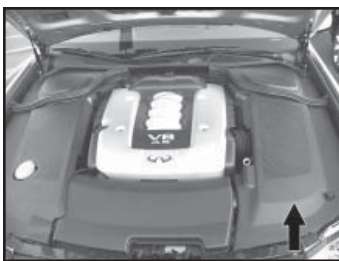

Fig. 1
1. Locate the plastic cover on the driver's side of the engine. (Fig 1)